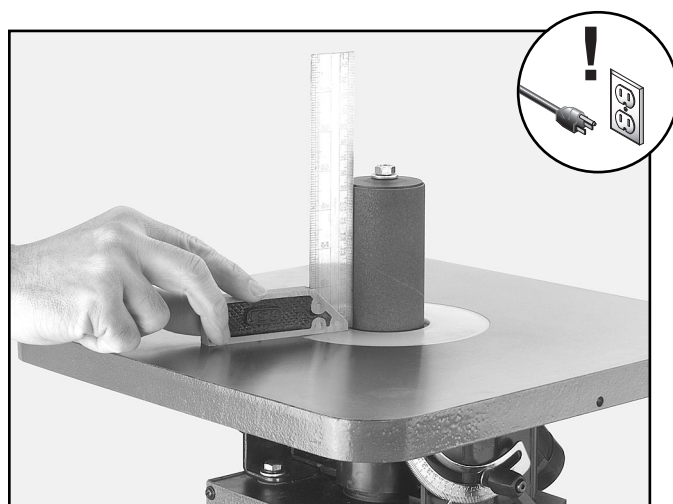

Figure 9. Squaring the table and spindle.
3. Place a machinist square on the table and against the sanding spindle to verify the table is 90° from the edge of the sanding sleeve as shown in **Figure 9**.